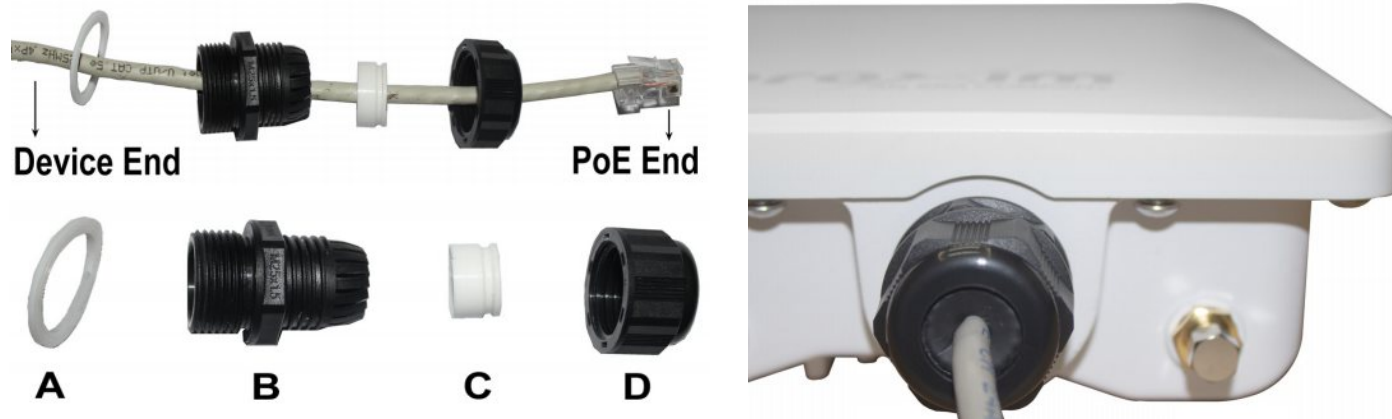

Figure 4-1 Weatherproofing RJ45 Connection
2. Insert the CAT5e/Cat6 cable through the Sealing Nut (D) and install the Compression Washer (C) to the cable. Compression Washer (C) has a slit in the middle for quick installation onto the cable.
3. Install the parts (D) and (C) in the direction as shown in Figure 4-1.
4. Insert the Flat Washer (A) onto the Connector Body (B) and then insert the CAT5e/CAT6 cable through the Connector Body (B).F
8. Slide and Insert the Compression Washer (C) into the Connector Body Assembly.
9. Fasten the Sealing Nut (D) to the Connector Body Assembly and fully tighten it to weatherproof the cable.